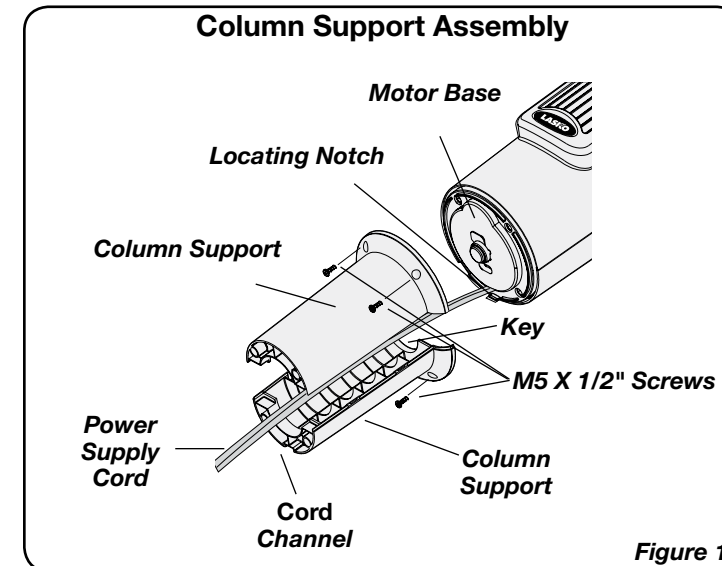

Figure 1
2. Locate the **Power Supply Cord** at the bottom on the Fan. Place the **Power Supply Cord** in the **Cord Channels** of the **Column Supports**. Snap the **Column Supports** firmly together to form the **Column Support Assembly**. (*Figure 1*)
3. Attach the **Column Support Assembly** to the **Motor Base** with (4) 1/2" Long M5 Screws. Make certain to align the **Key** on the **Support Column Assembly** with the **Locating Notch** on the **Motor Base**. (*Figure 1*)